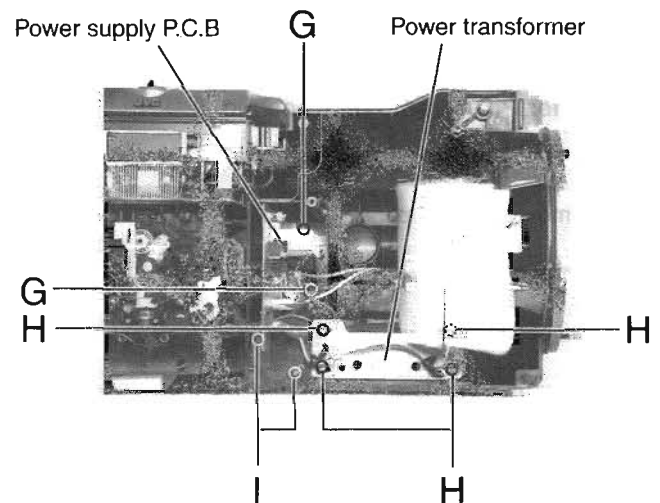
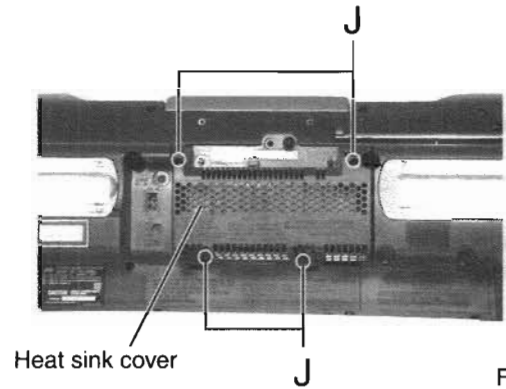

Fig.6
Fig.7
■ Power supply P.C.B removal (See Fig.6)
■ Power transformer removal (See Fig.6)
(See Fig.6 and Fig.7, 8)